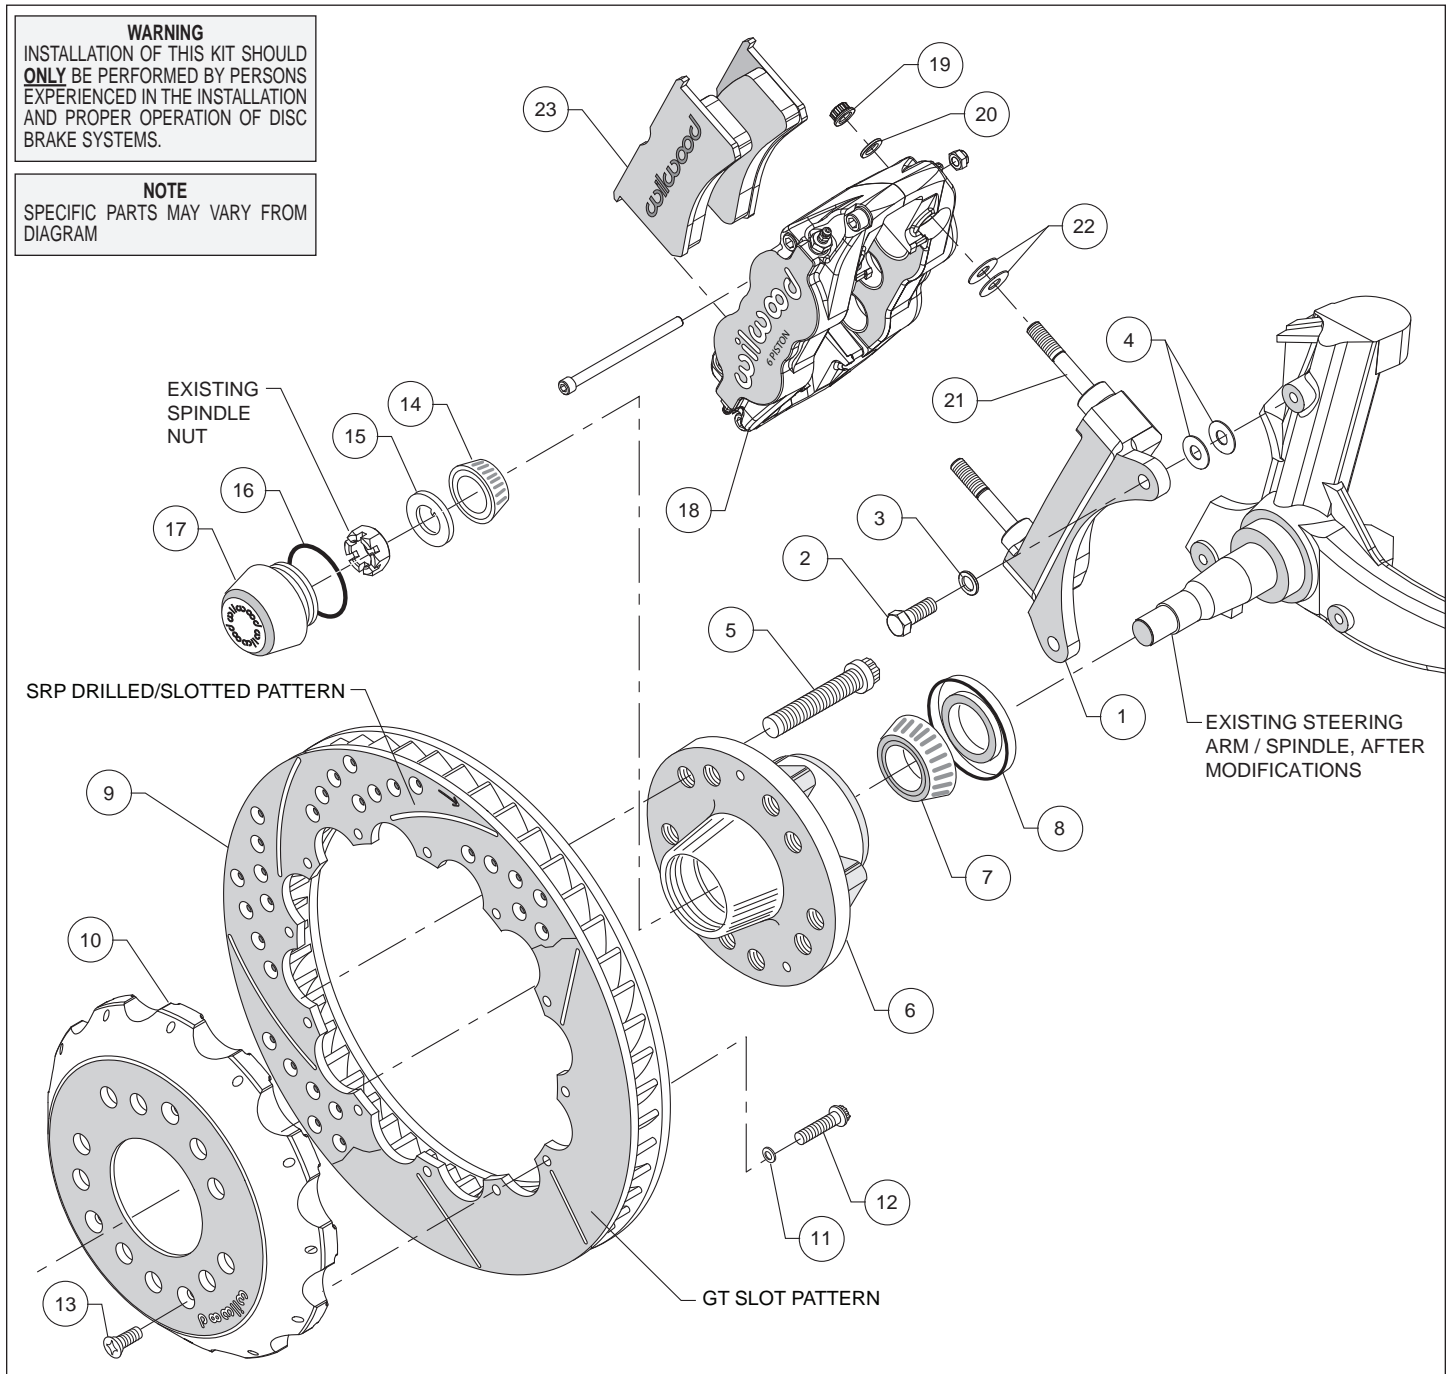
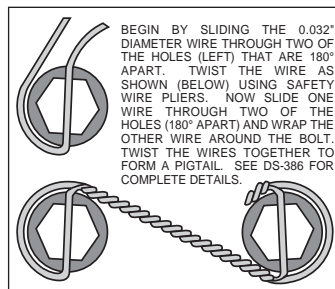

Figure 2. Typical Installation Configuration
Figure 4. Safety Wire Diagram
**Assembly Instructions** (numbers in parenthesis refer to the parts list and Figure 2 on the preceding pages):
- The caliper mount bracket (1) should initially be installed with clean, dry threads on the mounting bolts. Orient the bracket as shown in Figure 2 and Photo 1, and install using bolts (2) and washers (3). Initially place two .035" thick shims (4) on each bolt between the bracket and upright, Figure 2. Temporarily tighten the mounting bolts. **NOTE:** The bracket must fit squarely against the mounting points on the spindle. Inspect for interference from casting irregularities, machining ridges, burrs, etc. Later, after the caliper alignment has been checked, the mount bolts will be secured using red *Loctite*® 271.
- Orient the rotor (9) and the hat (10) as shown in Figure 2 and Photo 4. Attach rotor to hat using bolts (12) and washers (11). Using an alternating sequence, apply red *Loctite*® 271 to the threads, and torque to 155 in-lbs. For an added measure of security, the bolts may be safety wired using standard 0.032 inch diameter stainless steel safety wire as shown in Figure 4. Refer to Wilwood's data sheet DS-386 (available at [www.wilwood.com/Pdf/DataSheets/ds386.pdf](http://www.wilwood.com/Pdf/DataSheets/ds386.pdf)) for complete safety wire installation instructions.
- **NOTE:** This kit contains distinct right and left hand calipers that must be mounted in a specific direction, as described below. Lubricate the caliper mounting studs (21) with lightweight oil. Initially place two .035" thick shims (22) on each stud between the caliper and the bracket, as shown in Figure 2 and Photo 7. Mount the caliper (18) onto the bracket (1) using lock nuts (19) and washers (20), Figure 2. Ensure that the caliper is mounted so the largest pistons are at the rotor exit end of the caliper, in relation to the direction of rotor rotation. Temporarily tighten the lock nuts and view the rotor through the top opening of the caliper. The rotor should be centered in the caliper, Photo 8. If not, adjust by adding or subtracting shims (4) between the bracket and the spindle. Always use the same amount of shims on each of the two mounting bolts. Once the caliper alignment is correct, remove the bracket mounting bolts one at a time, apply red *Loctite*® 271 to the threads, and torque to 40 ft-lb.